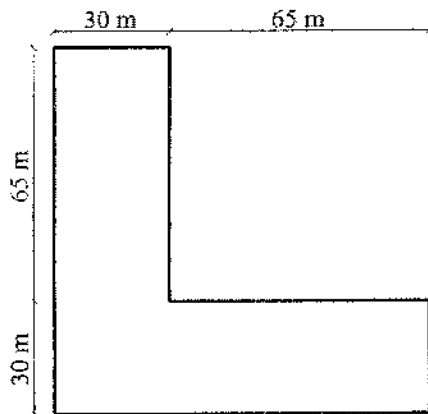

Fig. 1
- A. The industrial hall shown in Fig. 1 will be covered using plane frames. It is required to draw with a suitable scale plan, elevation and side view showing the different arrangement of bracing systems. Intermediate columns are not allowed inside the hall. **(5 Marks)**